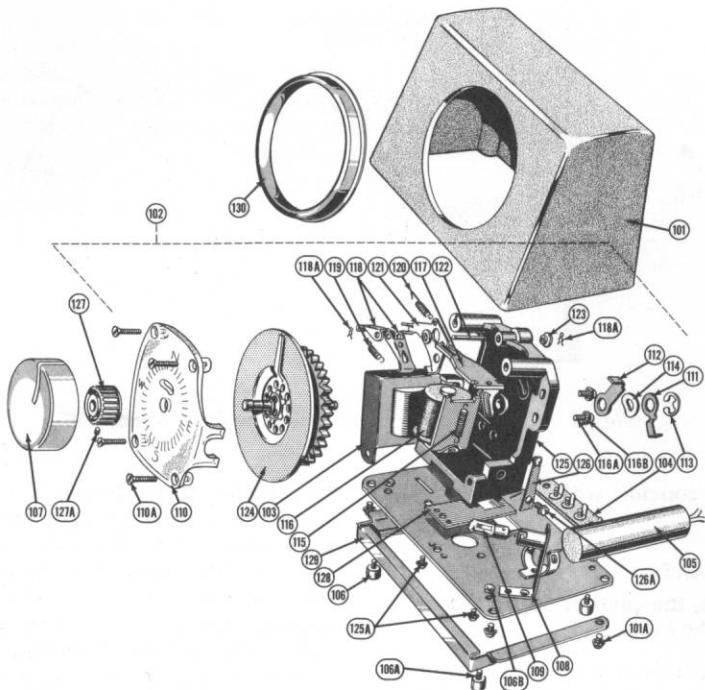

Fig. 17. Exploded View of Model U-83 Control Box.
- Viewing from front, left pawl (Item #118) should clear slotted escapement disc by .020 inch with electro-magnet in energized position. Adjust by bending electro-magnet armature tip (Item #117). (See Figure 17.)
- Right pawl (Item #118) should clear slotted escapement disc by .020 inch with electro-magnet in de-energized position. Adjust by bending tab on electromagnet assembly. (This tab also holds down the armature.) (See Figure 17.)